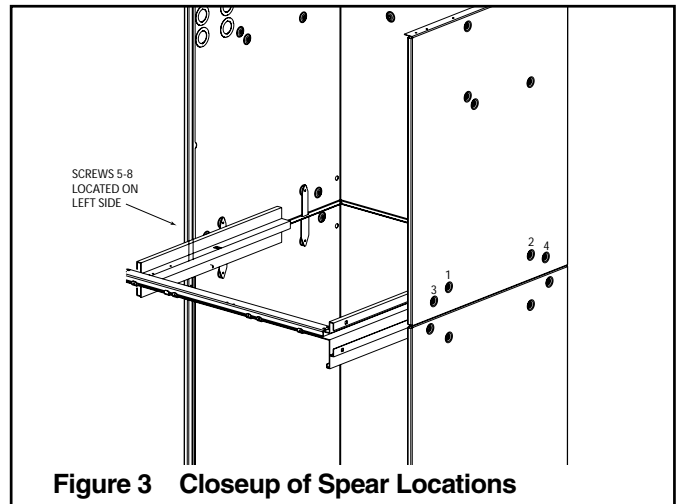

Figure 3 Closeup of Spear Locations
Steps for disassembly and reassembly (See Figures 3 and 4)
6. Remove top 8 screws. See Figure 3.